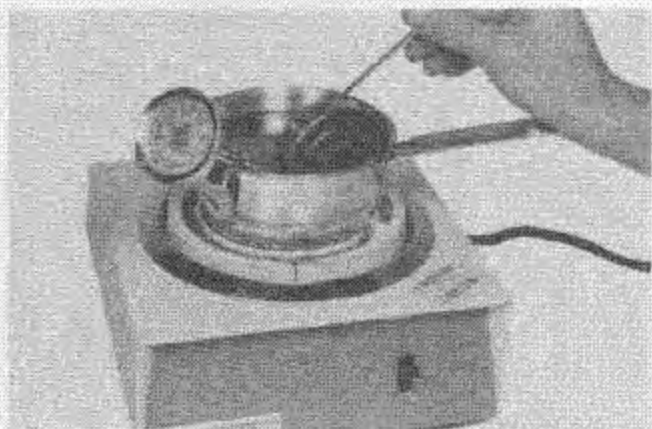
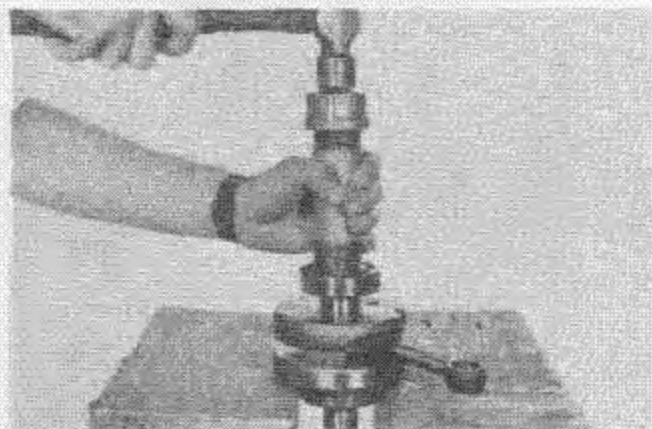

Fig. 6 — Heating Crankshaft Bearings
Fig. 7 — Installing Bearing
1. Heat crankshaft bearings in oil to approximately 220° F. for about five minutes. See Fig. 6. Place crankshaft between two wood blocks, drop bearing over shaft and tap in place. Fig. 7. Install other bearing in same manner.